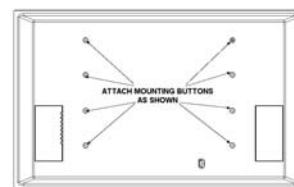

Figure 3
2. Attach mounting buttons to display using one Phillips head screw per mounting button (see Figure 3).